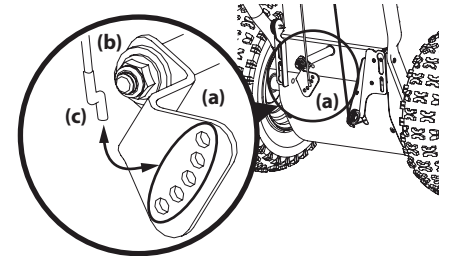

Figure 2-58
2. Lift the shift cable index bracket (a) up to create slack in the cable (b). See Figure 2-58.